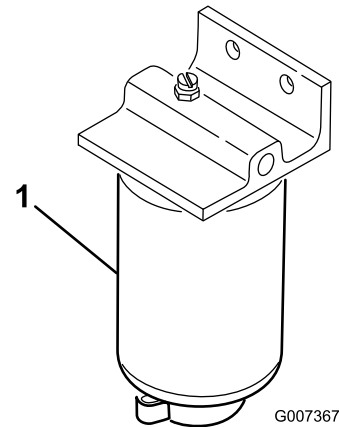

Figure 55
1. Place a clean container under the fuel filter(Figure 55).